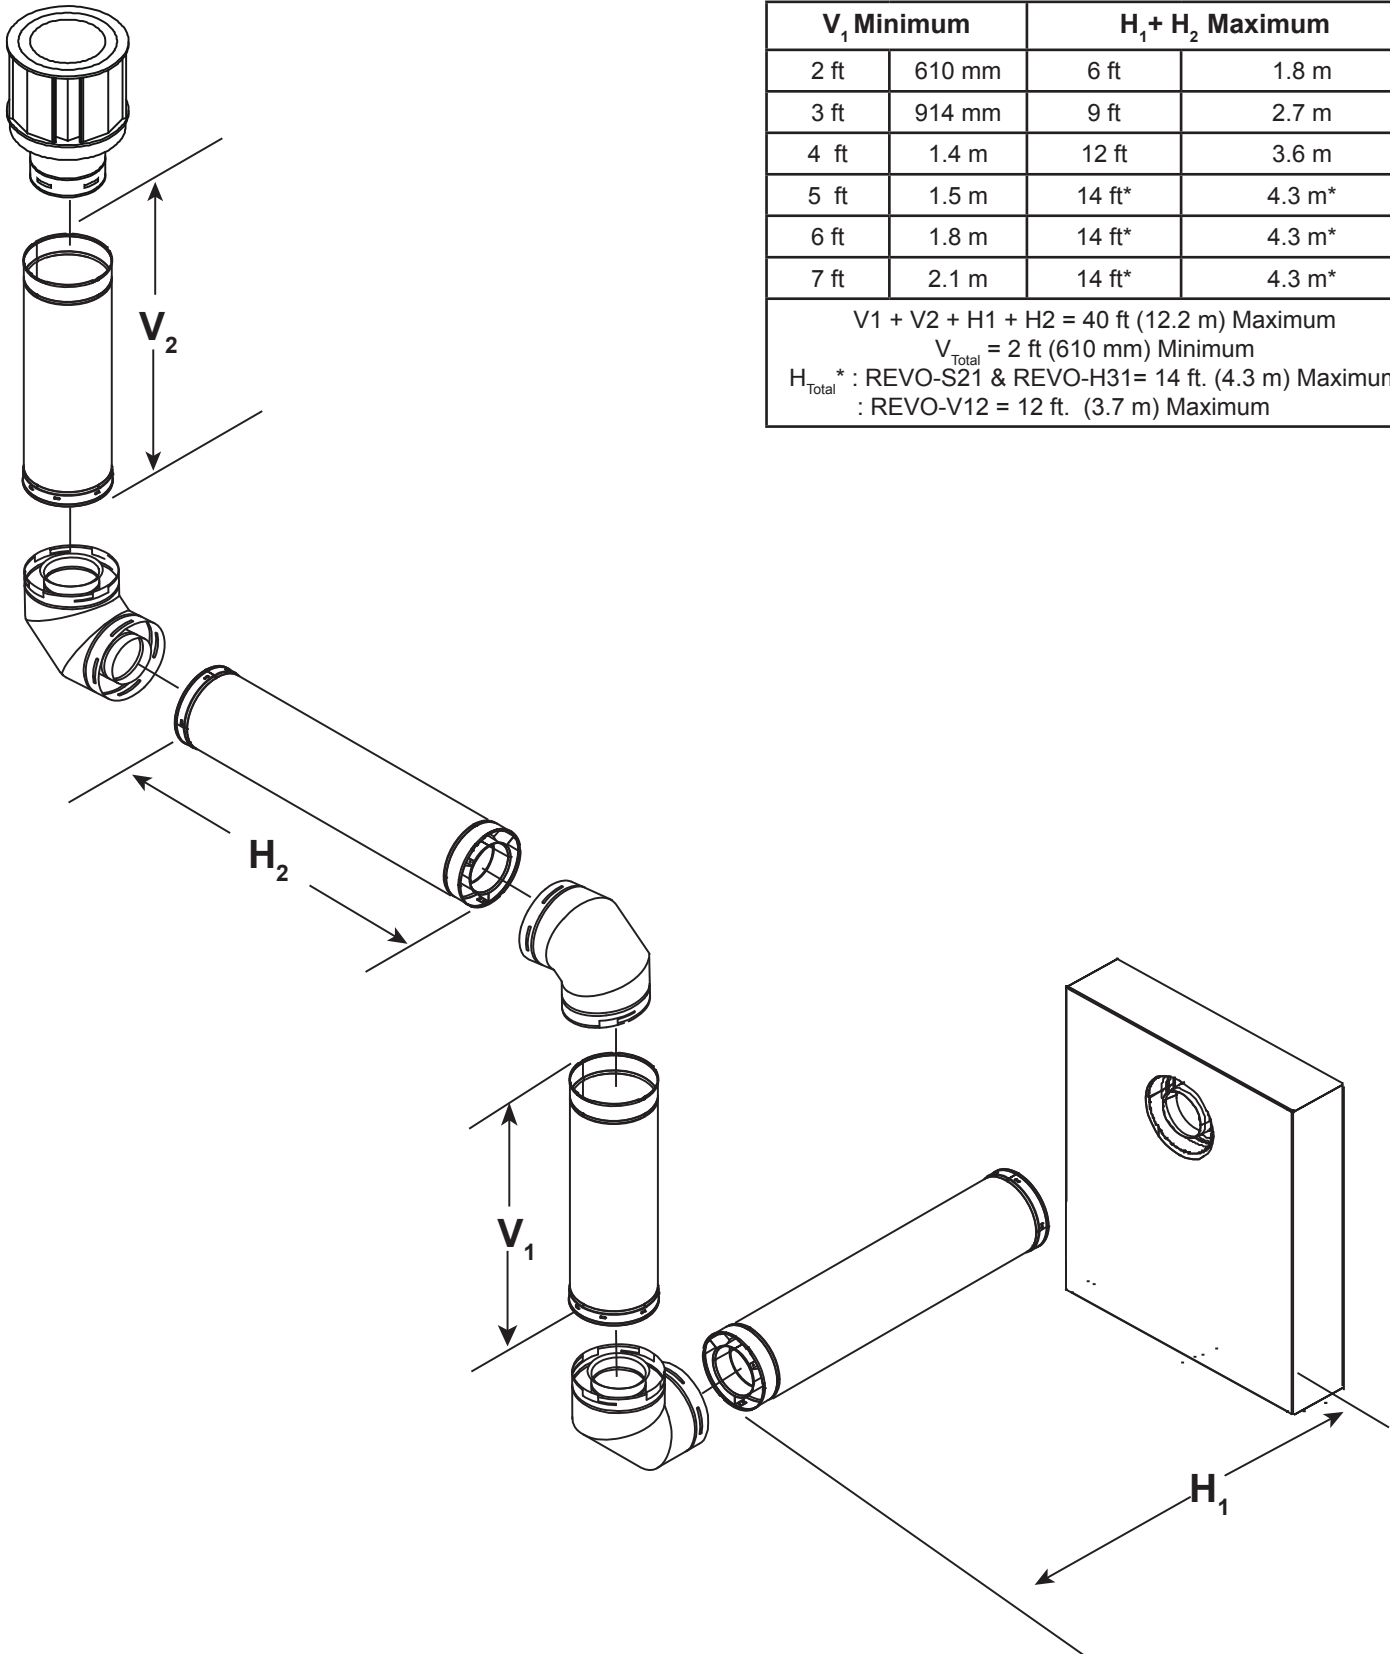

Figure 4.12
- A maximum of three 90° elbows (or six 45° elbows) may be used in any vent configuration. Some elbows may be installed horizontally. See Figure 4.9 and Figure 4.12 .